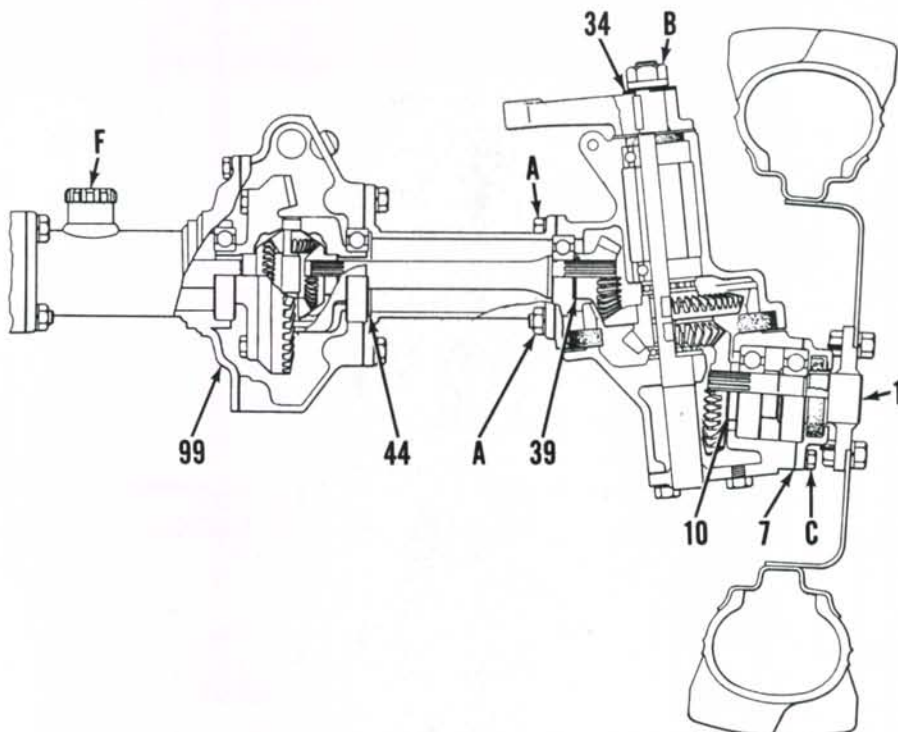

Fig. 15—Cross-section of front drive axle used on late YM135D and YM155D models. Early models are similar. Refer to Fig. 17 for legend.
**15. R&R AND OVERHAUL.** The complete outer drive housing can be separated from axle after removing fasteners (A—Fig. 15) or disassembly can be accomplished before detaching outer end of axle from center section.